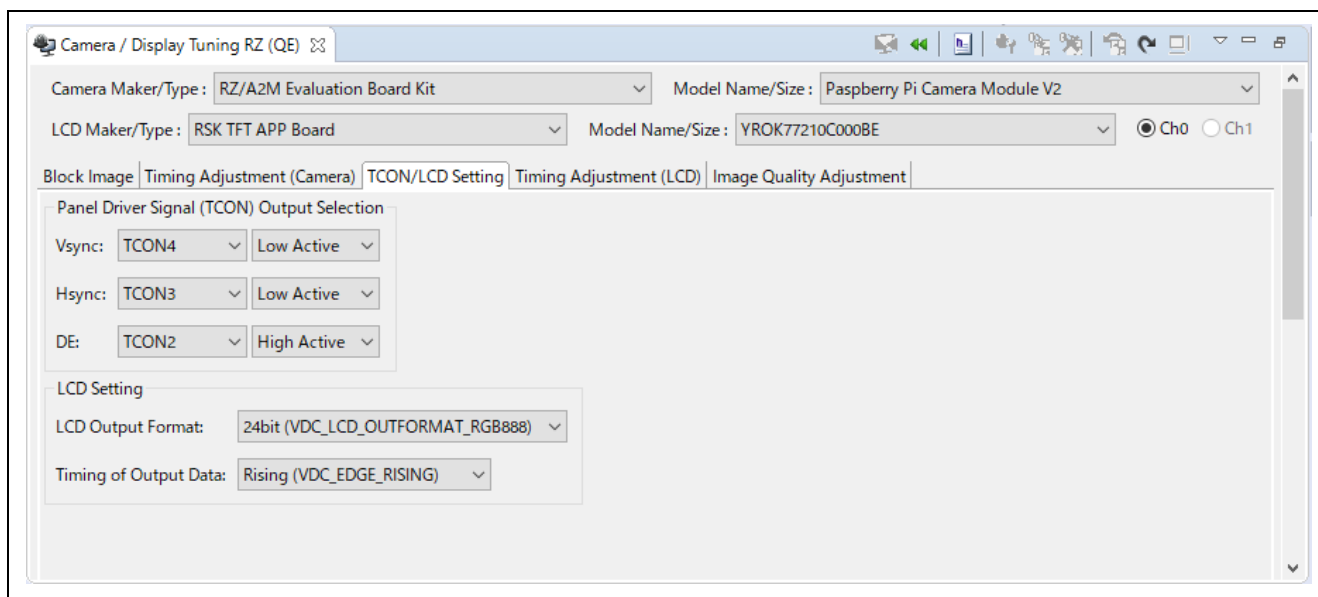

Figure 9-6 TCON and LCD Settings
Control signal output can be set by clicking the “TCON/LCD Setting” tab in Camera / Display Tuning RZ (QE) (Figure 9-6)